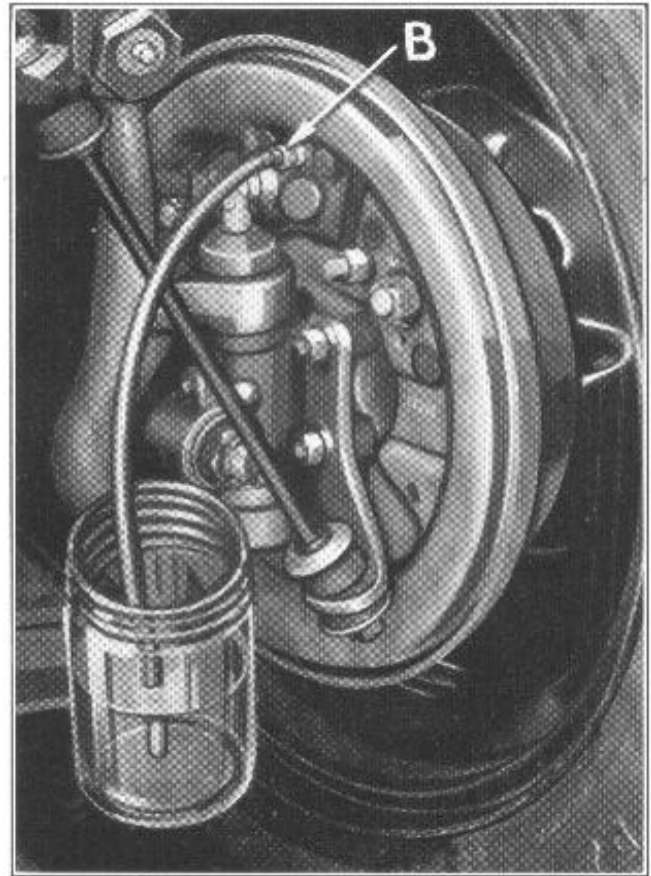

Figure 2
3. Remove wheel cylinder bleeder screw and attach end of bleeder hose, Figure 2, in its place and allow the free end to hang into a jar partially filled with fluid.
4. Unscrew bleeder valve (B) 3/4 of a turn.